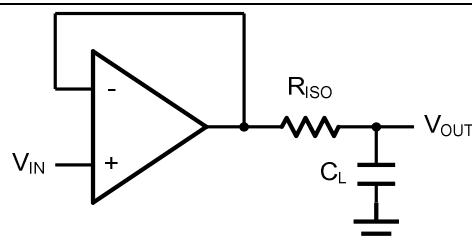
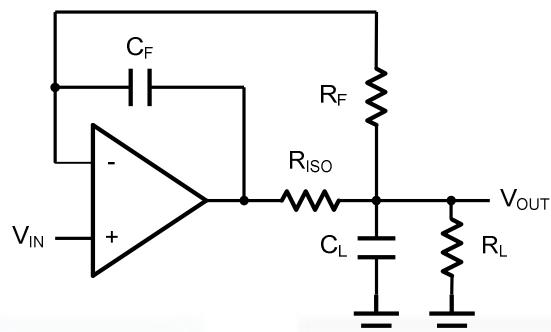

Figure 2. Indirectly Driving a Capacitive Load Using Isolation Resistor
Figure 3. Indirectly Driving a Capacitive Load with DC Accuracy
The GS872X family is optimized for bandwidth and speed, not for driving capacitive loads. Output capacitance will create a pole in the amplifier's feedback path, leading to excessive peaking and potential oscillation. If dealing with load capacitance is a requirement of the application, the two strategies to consider are (1) using a small resistor in series with the amplifier's output and the load capacitance and (2) reducing the bandwidth of the amplifier's feedback loop by increasing the overall noise gain. Figure 2. shows a unity gain follower using the series resistor strategy. The resistor isolates the output from the capacitance and, more importantly, creates a zero in the feedback path that compensates for the pole created by the output capacitance.
The circuit in Figure 3 is an improvement to the one in Figure 2. RF provides the DC accuracy by feed-forward the VIN to RL. CF